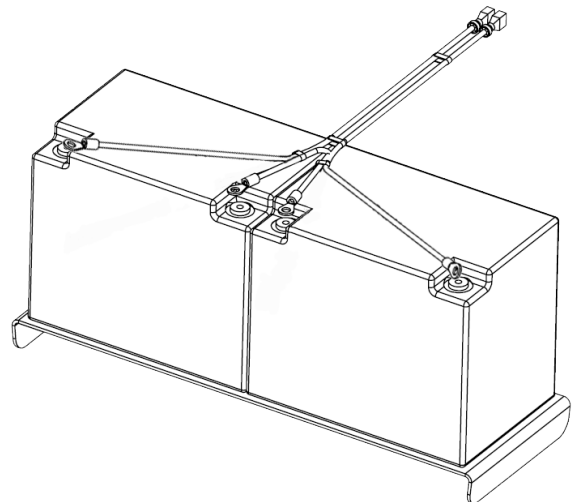

Figure 40. 35Ah Wire Harness to 8Ah Wire Harness
8. Connect the adjacent red (+) and black (-) terminals with the blue wire in the 35Ah wire harness (Figure 40).